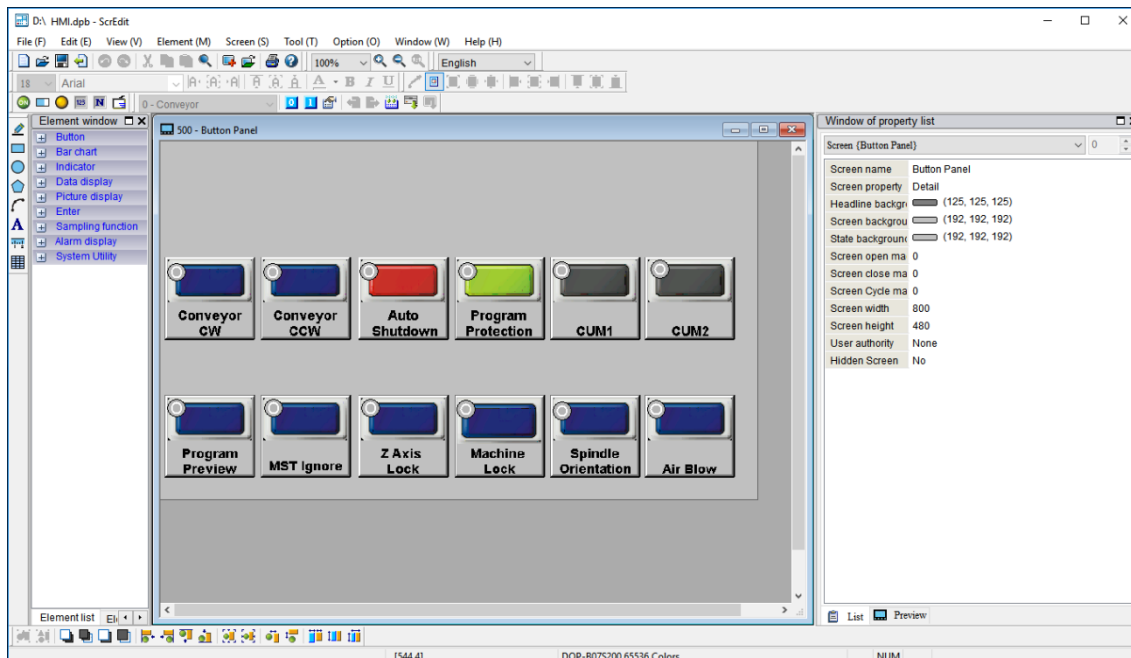

Figure 13.1.2
- After entering ScreenEditor, you can see the operation interface as shown in Figure 13.1.2.